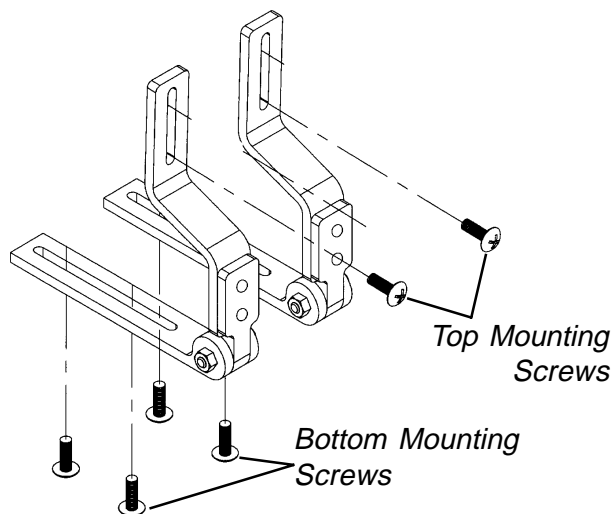

FIGURE 2 - ATTACHING / ADJUSTING THE ADJUSTABLE ANGLE GROWTH BRACKET
ATTACHING / ADJUSTING THE ADJUSTABLE ANGLE GROWTH BRACKET (FIGURE 2)
- Attach lateral support bracket to back shell as shown in **FIGURE 2** with the two (2) mounting screws provided. Repeat for opposite side.